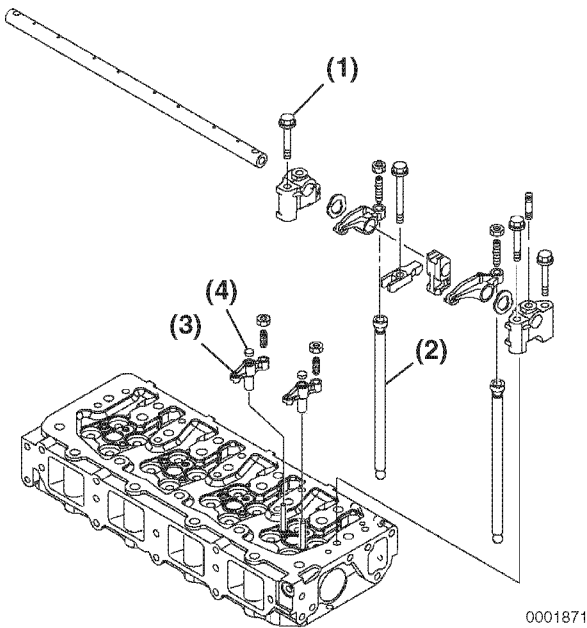

Figure 6-69
1. Reinstall the valve bridges (Figure 6-69, (3)) in their original locations and ensure each seat (Figure 6-69, (4)) is in place.
2. Insert the push rods (Figure 6-69, (2)) in their original locations.